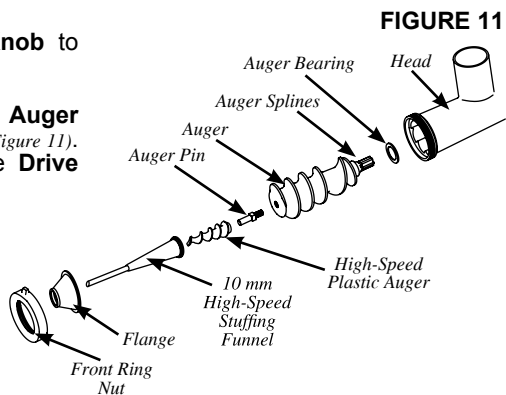

FIGURE 11
3. Insert the Auger, with the Auger Bearing attached, into the Head (Figure 11). Align the Auger Splines with the Drive Shaft of the Grinder.